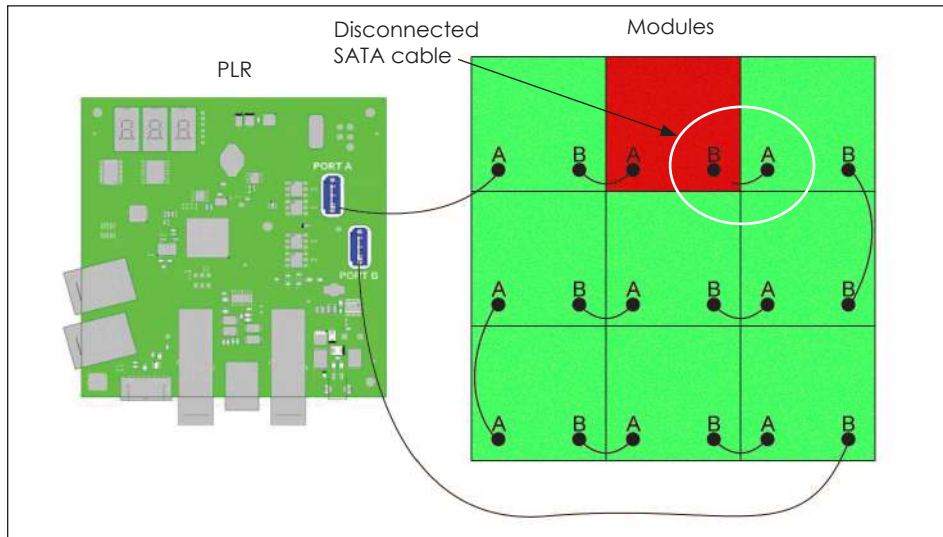

Figure 78: ProLink 5 Failure from Port B
- **Module - Port B Health** - This tests the ProLink 5 connections via SATA Port B on the modules. If the SATA cable coming from Port B on a module is disconnected, the modules that do not have a connection to Port B turn red. If the module has proper connection and communication via Port B, the modules turn green. Refer to **Figure 78**.